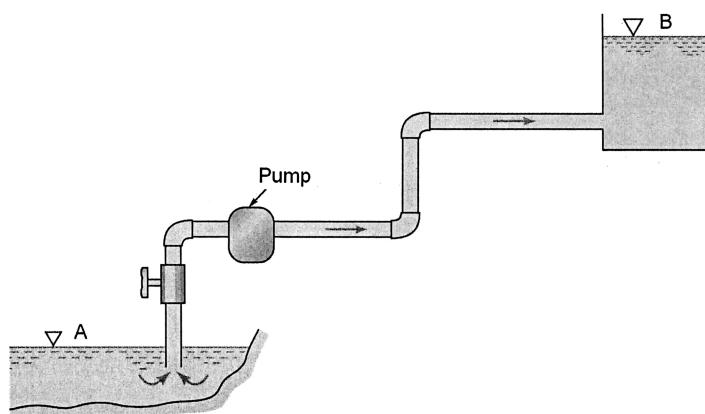

Figure 7
- (b) Water is drawn from a pond A to a tank B as shown in Figure 7. The volume flow rate is $0.1 \text{ m}^3/\text{s}$. The diameter of the suction pipe is 0.2 m and the head loss in the suction pipe is 2 m . Given that the NPSH required at this flow rate is 5 m , determine the minimum allowable pressure at the pump inlet and the maximum height of the pump above the free surface of the pond to avoid cavitation. The atmospheric pressure is 100kPa and the vapour pressure is 2340 Pa .
An identical pump with the same pipe network is to be installed at an altitude $Z \text{ m}$ above the sea level. The entire pipe network arrangement is the same as shown in Figure 7. The volume flow rate, head loss in the suction pipe and the NPSH required are assumed to remain constant. It is noticed that the maximum possible height of the pump above the free surface of the pond is reduced to 1.6 m . Determine the altitude $Z \text{ m}$ where this pump network is installed. The atmospheric pressure at an altitude $Z \text{ m}$ is P_{atm} and the vapour pressure is 2340 Pa .